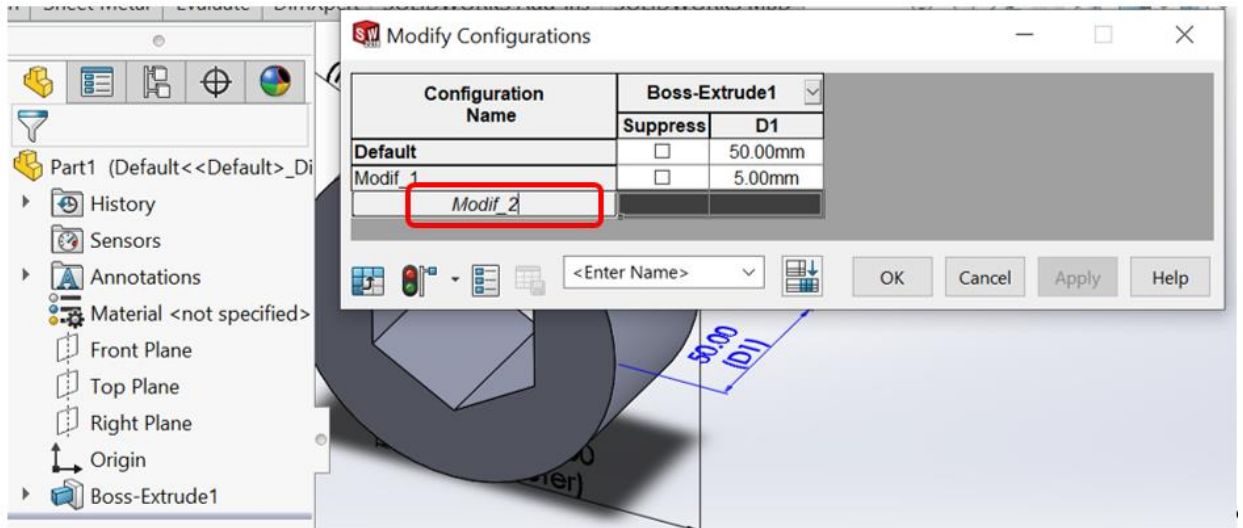

Figure 16 – Entering the name of the new configuration
- adding, removing and renaming configurations (Fig. 16);